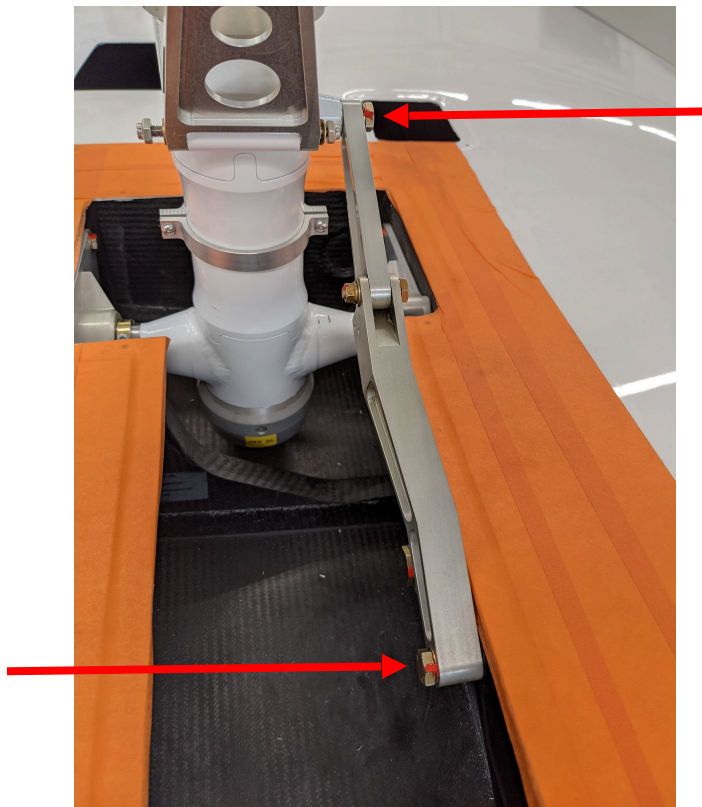

Figure 1 Bolt locations
2. Visually inspect if the both bolts shown in Figure 1 are tight. Torque seal must be intact (colored line not broken).
3. Remove two bolts shown in Figure 1.
7. Use torque seal paint to mark the secured location of the bolt (as in Figure 1).